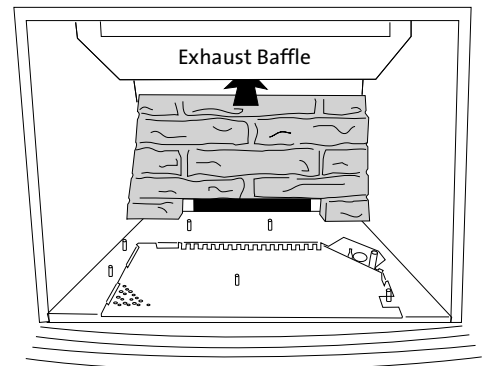

Figure 50. Install the Rear Panel to fit behind baffle.
4. **Install the Rear Panel.** Tilt the Rear Panel top first to slide behind the exhaust baffle and position it up against the back wall. See Fig. 50.